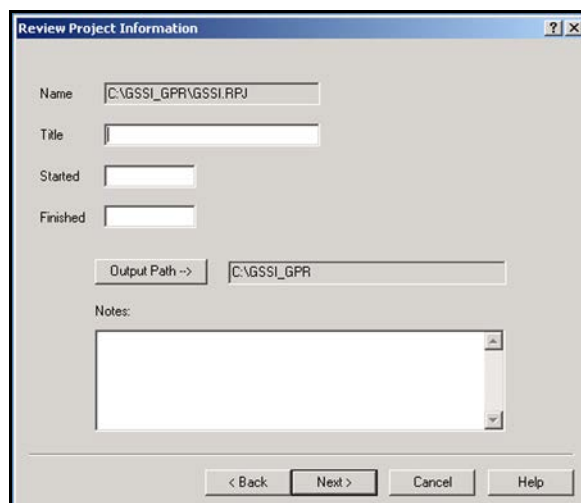

Figure 19: Project Information dialog box.
- Click Next >. This will open a new window with the heading Review Project Information (Figure 19).